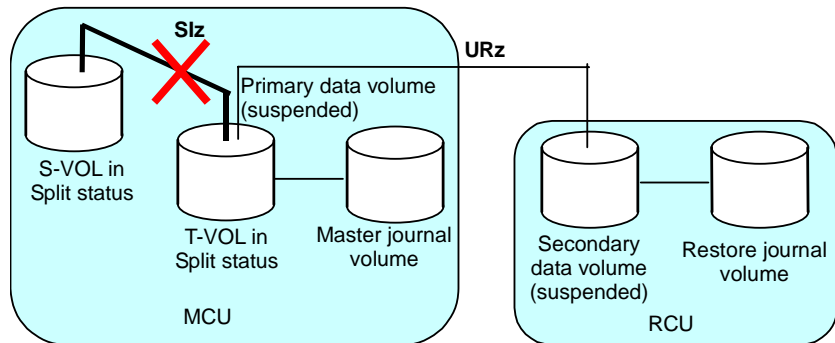

Figure 3-19 Restoring a Siz S-VOL - Step 8
8. Execute the Business Continuity Manager **YKSUSPND** command on the Slz pair to put the pair in Split status (see Figure 3-19).